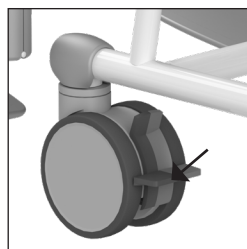

Figure 2. Directional wheel.
- The standard Tango XXL comes with a swivel wheel that is fitted to the left front side of the device (See figure 2). The direction of the wheel can be blocked by pushing the green lip on the wheel downwards. This makes it easier to push the device over long distances as the chair is less inclined to move sideways.